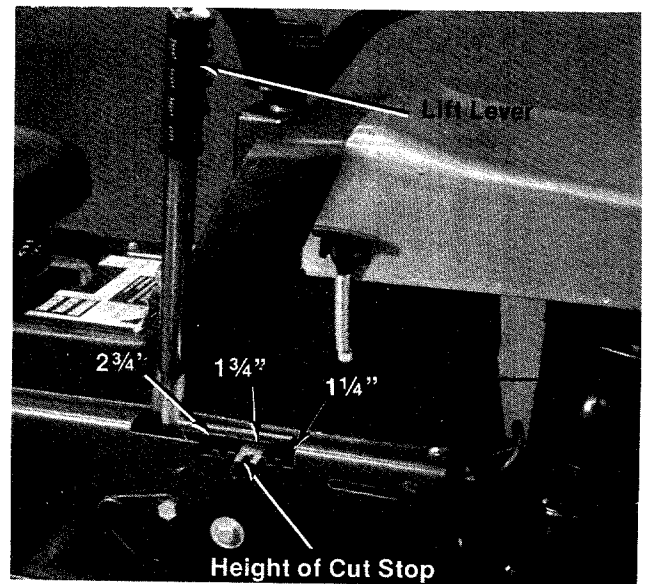

Figure 9.
2. Using the height of cut stop, set the cutting height lever in the desired position. (See figure 9.)